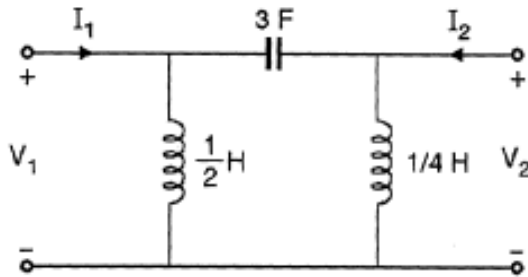

Figure 1
- c) What is the residue condition ? Show that it is valid for the network shown below in Fig. 1 6